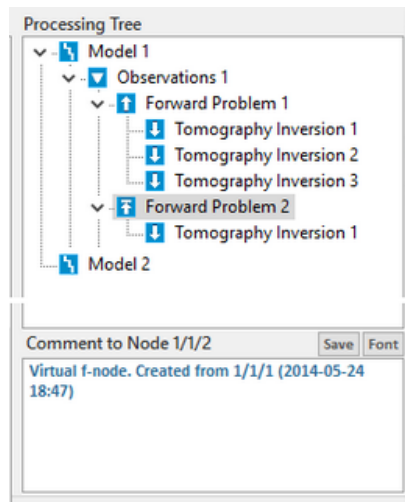

Fig. 1. A fragment of Processing Tree.
Processing Tree is the data structure dynamically created in the project folder in the course of interpretation. Project Manager (PM) represents the data for the user and provides access to them. The same term is used for both the data structure on disc and its visual representation in the PM's main window (fig. 1).
A small field *Comment to Node* <code> contains short user notes relating to the selected node. The *node code* is a slash-delimited string of the node's and its ancestors' numbers counting from the root, e.g. 1/1/2 for the f-node on fig. 1. Maximal length of the comment is 300 characters. Sometimes, after node is created, PM itself adds information of the node origin as on fig. 1. Further notes are entered by the user. In the course of multivariant processing comments are necessary. To save changes in the field, click on the *Save* button or press the *Enter* key. To cancel changes, press *Esc* or simply click somewhere on the project list or Processing Tree. The *Font* button allows changing font of the comment field.